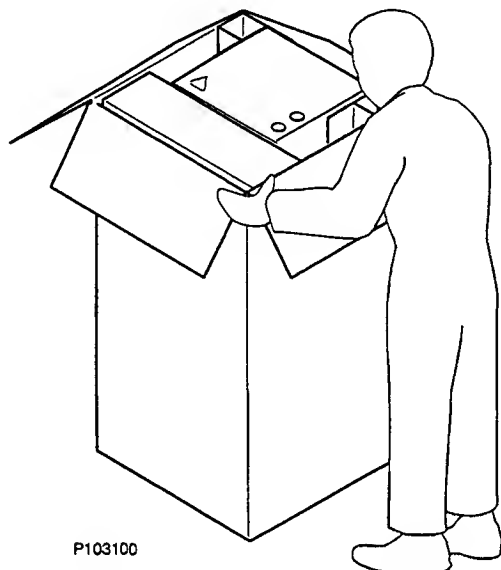

FIGURE 1: OPENING SHIPPING CARTON
1) Remove strapping from carton. Remove staples and open top flaps (see Figure 1).